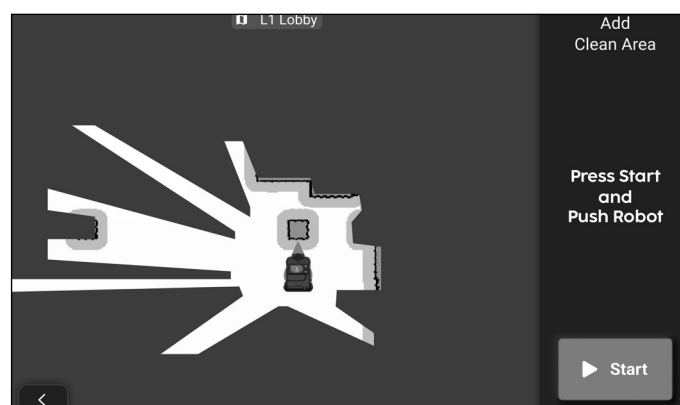

Figure 33
13. Push the robot to the area where the cleaning will take place, press 'Start' to begin creating the cleaning area (**Fig. 33**).